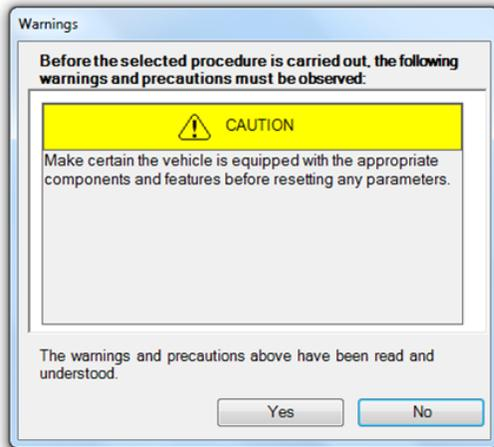

FIGURE 30
2. Click YES on this pop up window (FIGURE 30).